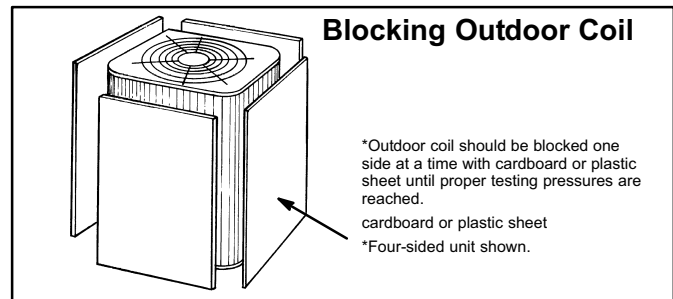

FIGURE 12
- 1.Restrict the airflow (see figure 12) through the outdoor coil to achieve pressures from 200-250 psig . These higher pressures are necessary for checking the charge. Block equal sections of air intake panels and move coverings sideways until the liquid pressure is in the above noted ranges.